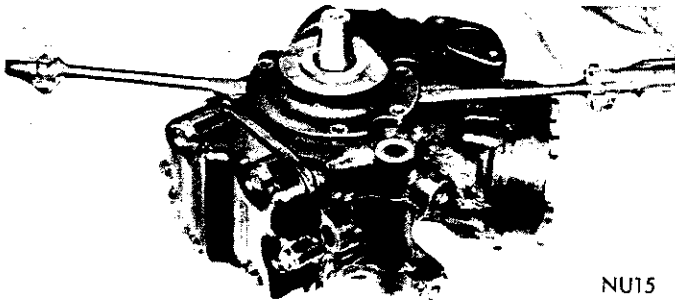

Fig. 12—Removing Crankshaft Bearing Housing
(1) Loosen belt, remove clutch, coil and drive key.
(2) Remove crankshaft bearing housing seal bolts.
(3) Remove bearing housing from crankshaft, using two screwdrivers inserted in the slots provided, to pry the housing from the case (Fig. 12).
(4) Remove bearing housing oil seal.
(5) Remove gas seal seat plate from the bearing housing. This is part of the gas seal replacement pack-